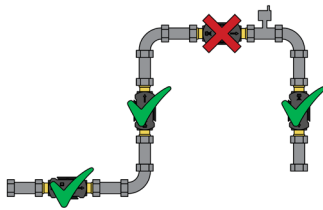

Fig.1
1. Do not place the flow sensor at the highest point of the pipe (*Fig.1*);